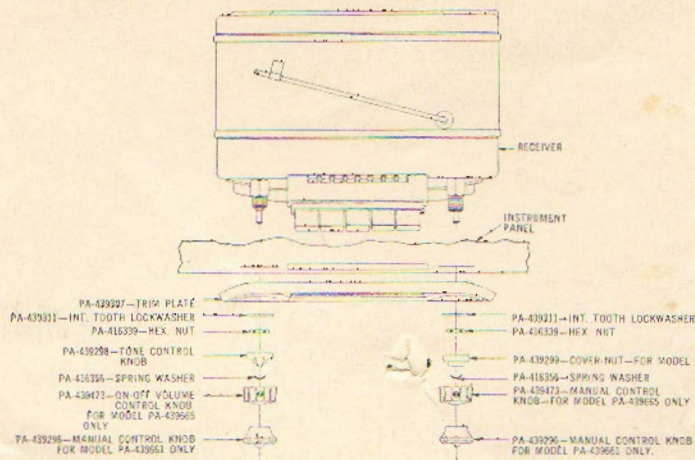

Figure 1
(See Figures 1 and 2)
- Lift the set up behind the instrument panel and guide the volume control and manual control shafts through the instrument board openings. (Fig. 1)
- Put the tone control lever on the left shaft. Then, place spring washer on the shaft between the tone control lever and knob. Put cover nut and spring washer on right shaft. Tighten the set screws in both knobs. (Fig. 1)